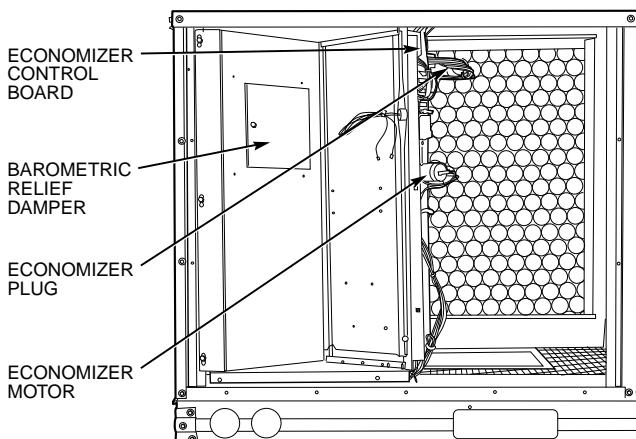

Fig. 19 — Horizontal Varislide™ Economizer Installation
- a. Rotate economizer 90 degrees until the economizer motor faces the condenser section (see Fig. 19).